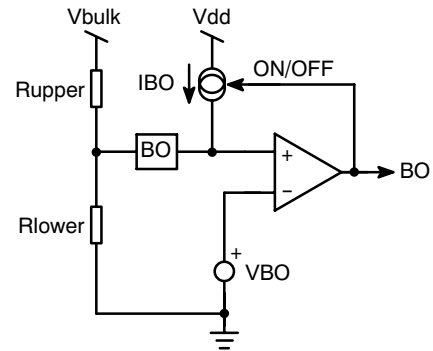

Figure 44. The Internal Brown-out Configuration with an Offset Current Source
The Brown-Out circuitry (BO) offers a way to protect the resonant converter from low DC input voltages. Below a given level, the controller blocks the output pulses, above it, it authorizes them. The internal circuitry, depicted by Figure 44, offers a way to observe the high-voltage (HV) rail. A resistive divider made of Rupper and Rlower, brings a portion of the HV rail on pin 5. Below the turn-on level, the 26.5 μ A current source IBO is off. Therefore, the turn-on level solely depends on the division ratio brought by the resistive divider.